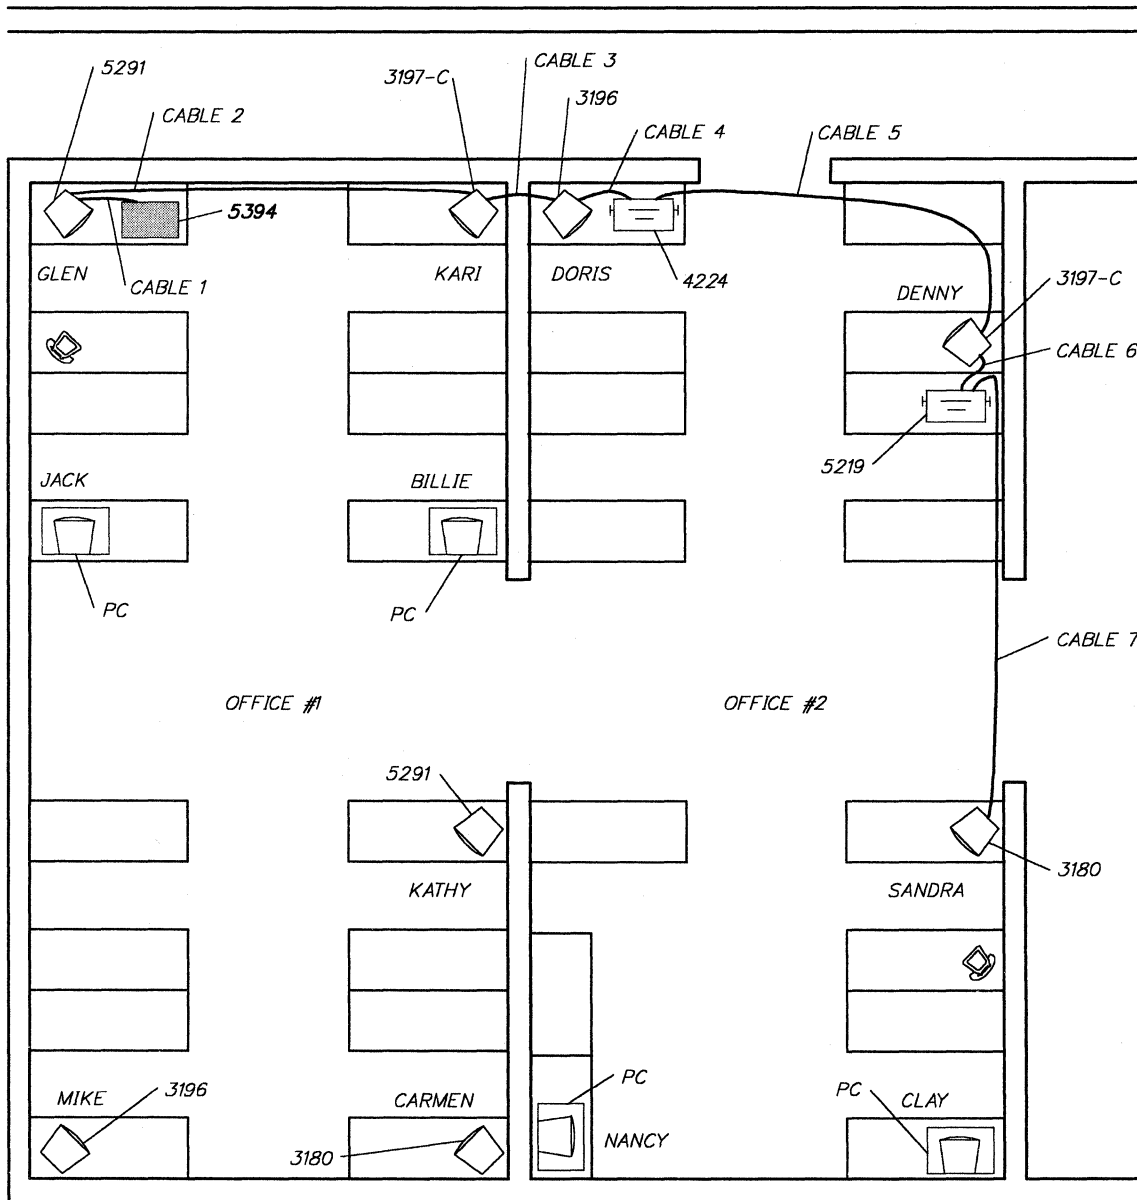

Figure 27. Floor Plan with Cabling
2. Continue drawing cable paths to the remaining devices. Your floor plan should resemble the example shown in Figure 27.